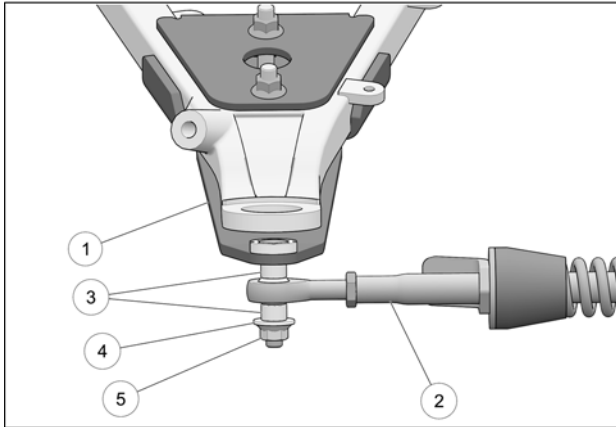

Fig. 17
- Attach the stabilizing rod (2) to the anchor bracket (1), using the two spacer bushings (3), flat washer (4) and nut (5). Torque to 70 N•m [52 lb•ft]. Refer to Fig. 17